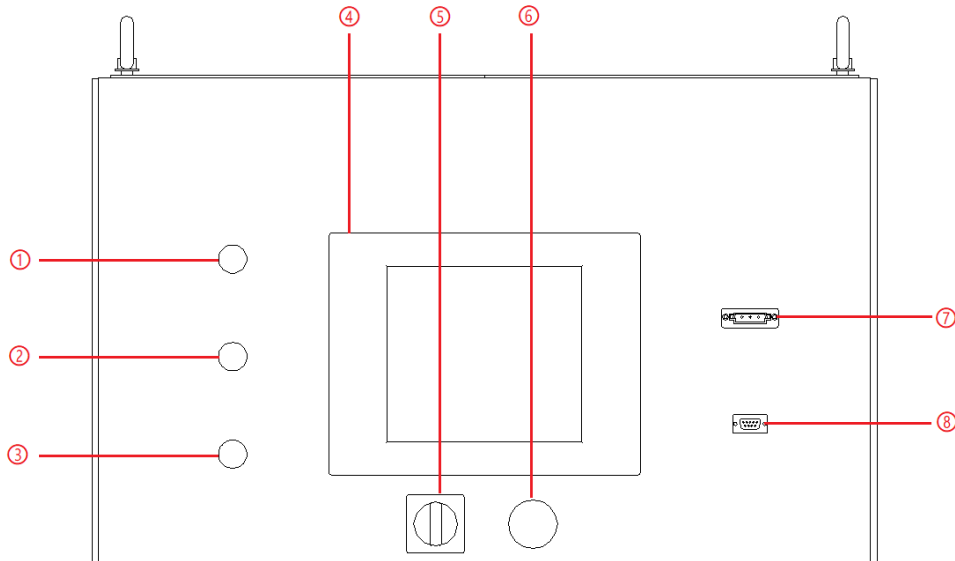
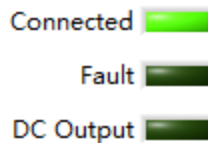

Figure 3-4 Front Panel
Figure 3-5 Touch screen software indicators
A few seconds after the power is initialized, the control module and touch screen start to work, the power supply is standby. If the power supply communication is normal, the white light (Figure 3-4 ①) is always on. All functions and parameters can be accessed through the TFT-Touch panel or GUI software to set up and run, the "Connect" indicator on the touch screen software interface is green (Figure 3-5).